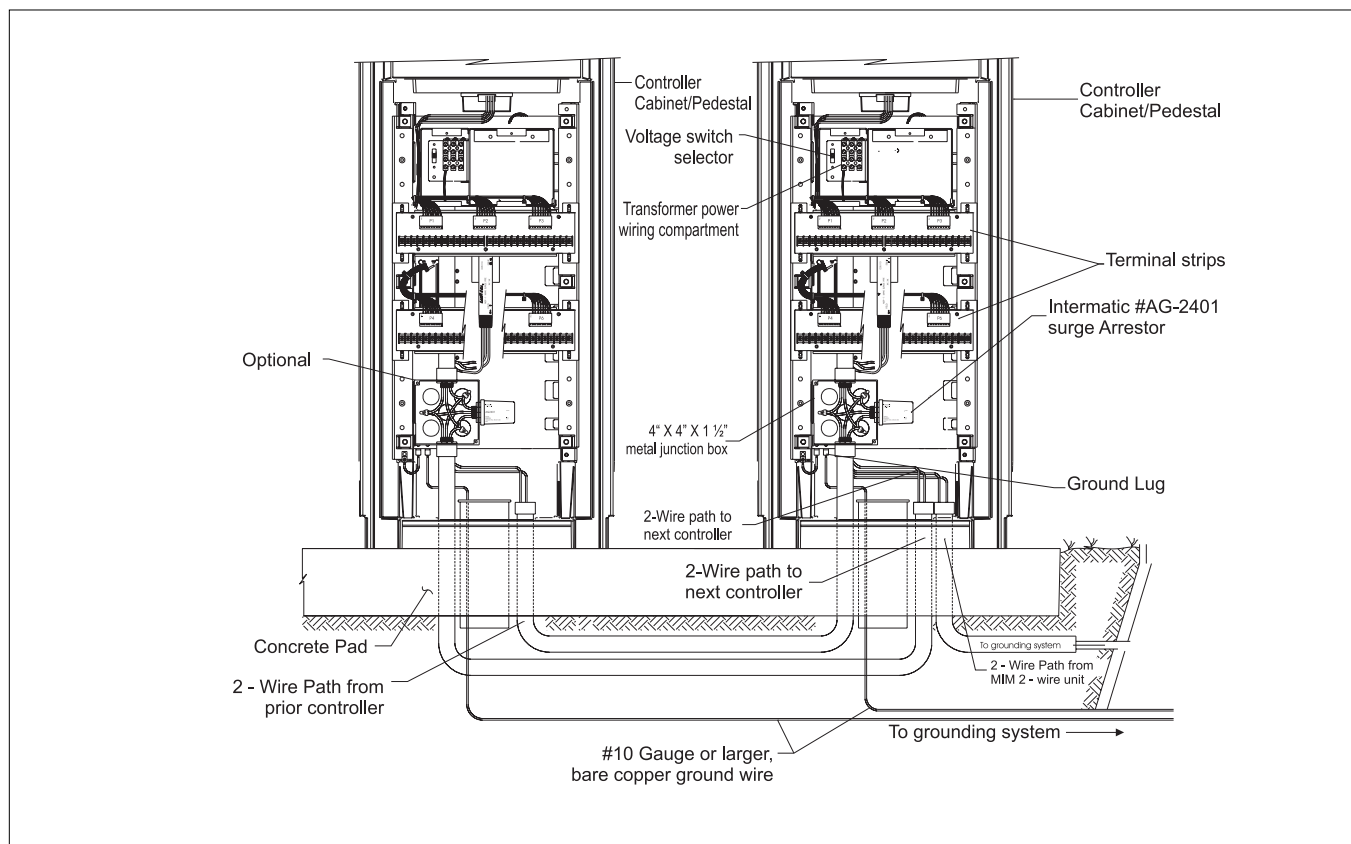

Figure 4: Overview of controller cluster power wiring and communication wiring
2. Secure the junction box to the conduit using a short nipple and the required fittings (as shown in Figure 4).